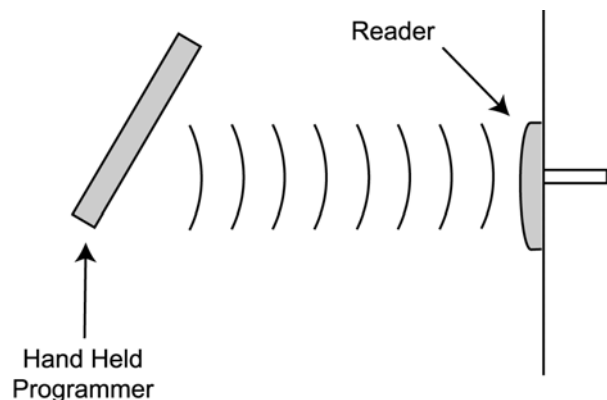

Figure 1: HPP-22 Orientation for Transmitting Commands
Programming an *IntelliProx* unit is accomplished using the HPP-22 Hand-Held Remote Programmer. The HPP-22 has the appearance of a TV remote control, but has a different principle of operation. It is a mini-transmitter using a radio frequency (RF) rather than an infrared signal to transmit data. Unlike a television remote control (that requires a direct line-of-sight between the infrared transmitter in the remote and the infrared receiver in the television) the HPP-22 should be held parallel to the proximity antenna (see Figure 1). Hold the HPP-22 within the range of the proximity antenna (approximately 1-foot) and press the appropriate button to send a command. Allow about 0.5 seconds for a response from the reader.